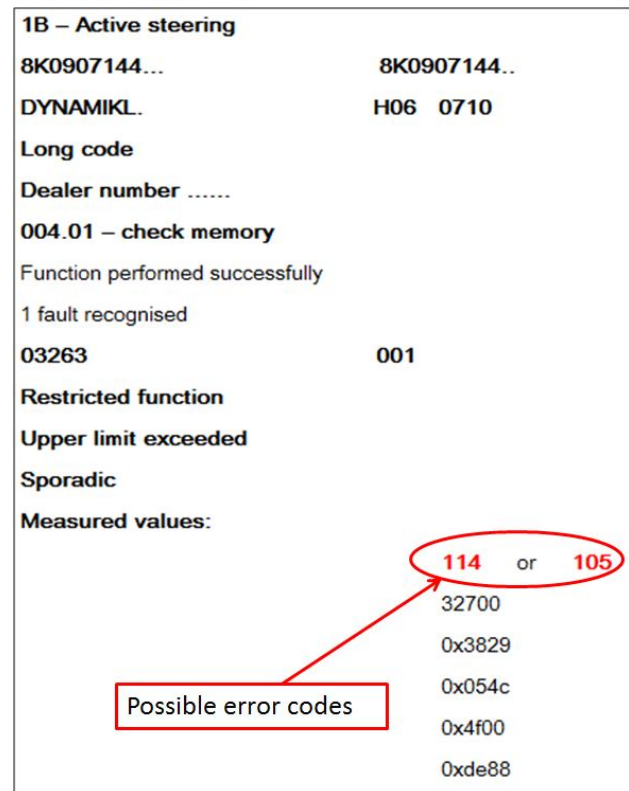

Figure 1. Example of DTC 03263 stored with error code 114 or 105 in the *Measured values* section.
2. Confirm that DTC 03263 is stored and that it is accompanied with error code 114 or 105 in the *Measured values* section (Figure 1).